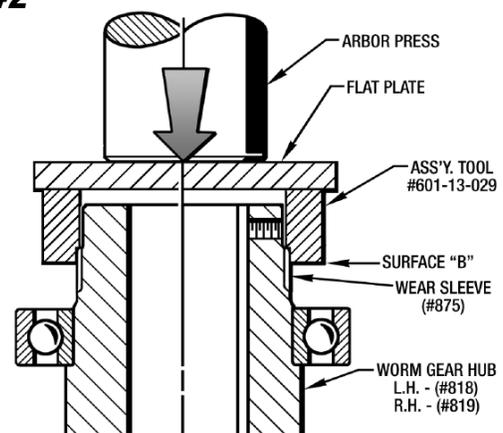

Figure 9.6 - Installing Wear Sleeves (#875)
2. With an Arbor Press install the Wear Sleeve (#875) with **Surface "A"** of Ass'y. Tool #601-13-129 as shown in **Step 1** of Figure 9.6.
3. Turn the **Ass'y. Tool #601-13-029** over and use **Surface "B"** to seat the Wear Sleeve (#875) completely on the Hub as shown in **Step 2** of Figure 9.6.